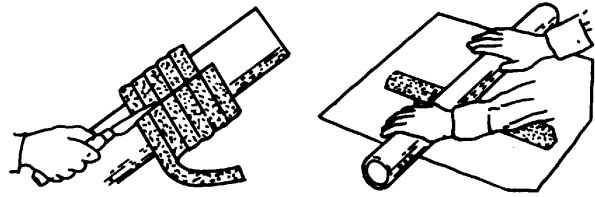

Figure F-6A.
Step 1: Determine how much bulk packing will be required to fill the seal cavity and wrap it around a rod the same diameter as the shaft. With the packing wrapped around the rod, cut through each turn as shown in Figure F-6A.